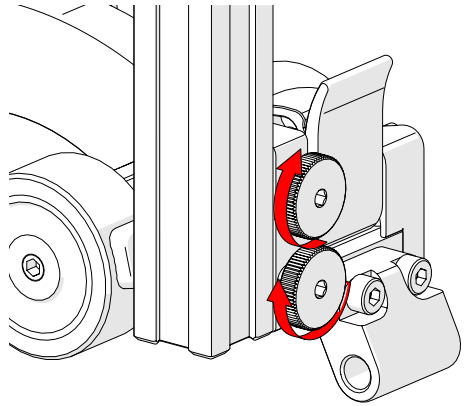

Fig. 41 - Tighten knobs
3. Tighten the two knobs to secure the frame bar in place (*Fig. 41*).